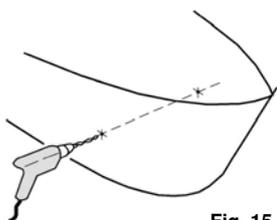

Fig. 15
- Located the position on the boat according to the information submitted in the previous paragraphs, drill two holes in the hull to locate the centre of the tunnel (Fig. 15).